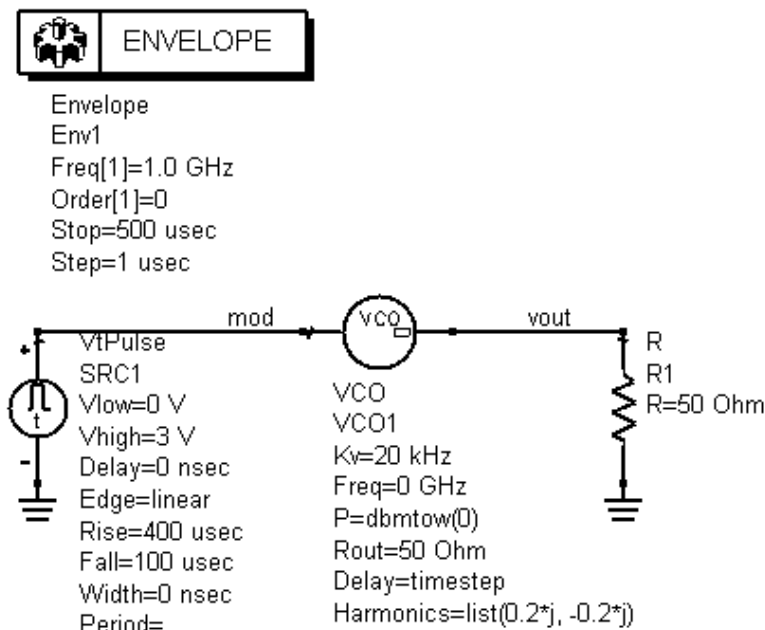

Figure 5-9. VCO in a transient simulation
5. **Figure 5-9** shows the use of the VCO in a transient simulation. The VCO is defined with significant second and third harmonic levels. Simulation results are shown in **Figure 5-10**.